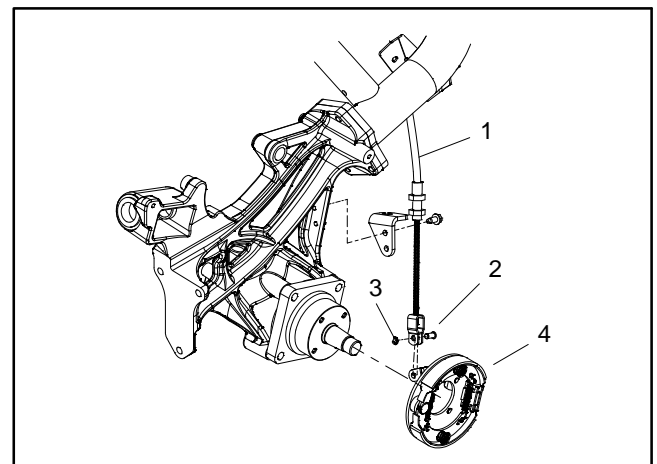
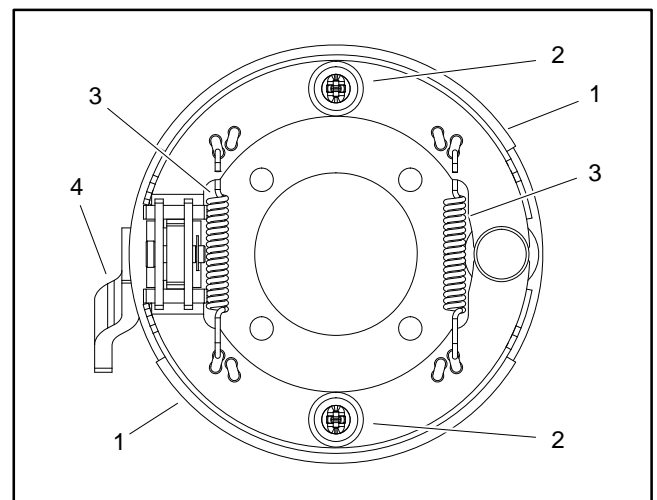

Figure 7
Figure 8
3. Loosen, but do not remove, lock nut (item 7) from wheel motor shaft.
6. Remove e-ring and clevis pin that secure brake cable to brake actuator lever. Position brake cable end away from lever (Fig. 7).
7. Make sure that lock nut on wheel motor shaft is loosened at least two (2) turns. Use wheel hub puller (see Special Tools in this chapter) to loosen brake drum assembly from motor.
9. Remove shoe springs from brake shoes (Fig. 8).
10. Remove shoe hold down cups and springs. Remove brake shoes and hold down pins from backing plate (Fig. 8).
11. If necessary, remove backing plate from machine by removing four (4) cap screws (item 6).
2. If backing plate was removed from machine, position backing plate to wheel motor with brake lever inserted into slot of brake lever tab. Secure backing plate to wheel motor with four (4) cap screws (item 6).
4. Position one brake shoe to the backing plate. Install brake hold down pin and secure with hold down spring and cup (Fig. 8). Repeat for second brake shoe.
5. Install shoe springs to brake shoes (Fig. 8). Make sure that brake shoes are properly positioned to pivot and actuator points.
8. Install new lock nut (item 7) onto the wheel motor shaft to secure brake drum assembly.
9. Position brake cable end to brake actuator lever. Secure cable to actuator lever with clevis pin and e-ring (Fig. 7).